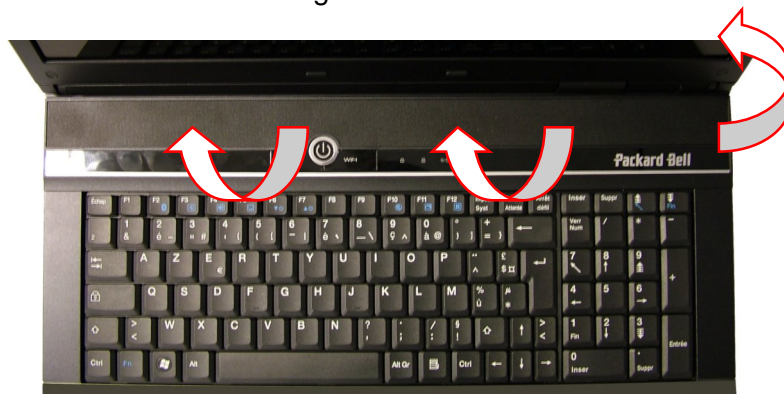

Fig. 11 Removing keyboard cover.
3. Tilt the cover from the front to the back and lift it out (see Fig. 11).